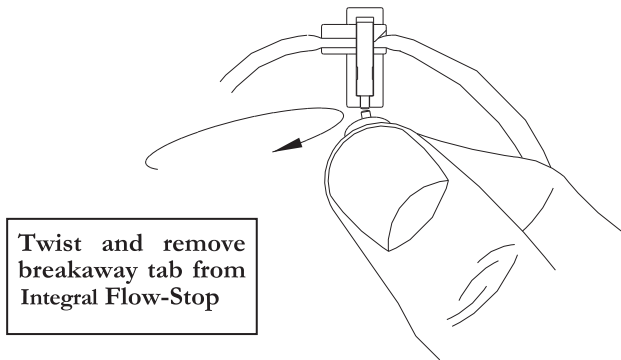

Figure 2.5 Curlin Infusion Administration Set Integral Flow-Stop with Breakaway Tab
1. To gravity prime the administration set, twist and remove the breakaway tab from the Integral Flow-Stop, then spike the IV bag. Squeeze the Integral Flow-Stop between your thumb and forefinger to allow fluid to flow through the tubing until all air is removed from the IV bag and administration set (see figures 2.5 and 2.6). Release the Integral Flow-Stop to automatically clamp the tubing.